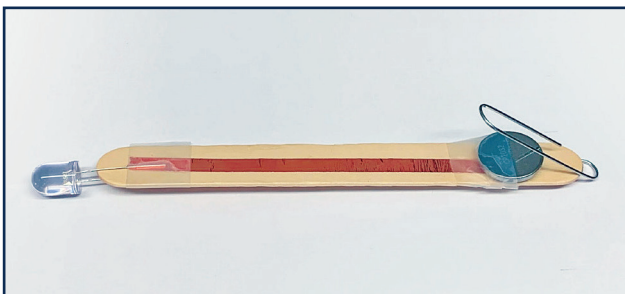

Figure 2. Completed DIY flashlight.
- Place the LED on the end of the craft stick opposite the paperclip and battery (Figure 2). The long leg (positive lead) should straddle the side of the craft stick opposite the battery. Both legs should be touching the foil tape on each side of the craft stick.